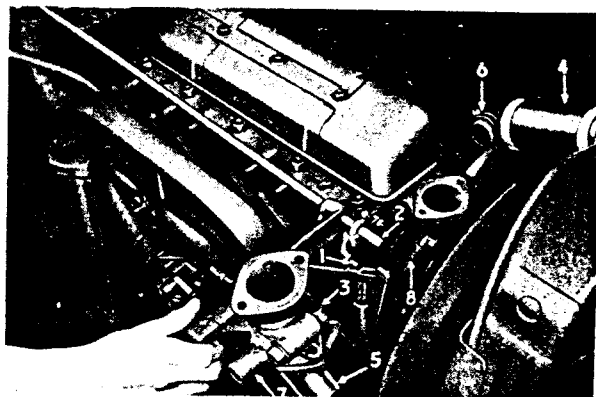

FIG. 6
### Preparations for Lifting Cylinder Head (Fig. 6).
9. Swing clear the assembly comprising thermostat body and water outlet elbow, pivoting on throttle rod, as shown in Fig. 6.
11. Using service wrench FTB2, remove manifold nuts. Pull manifold off its studs and leave suspended clear of cylinder head as shown in Fig. 6. Remove gaskets.